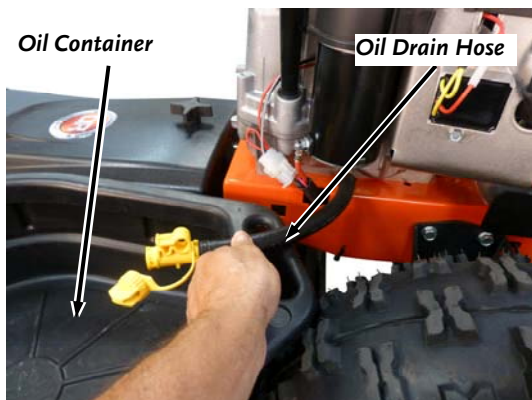

Figure 23
2. Turn the Oil Drain Cap a quarter turn counterclockwise and open the end of the Drain Hose Assembly (**Figure 23**).